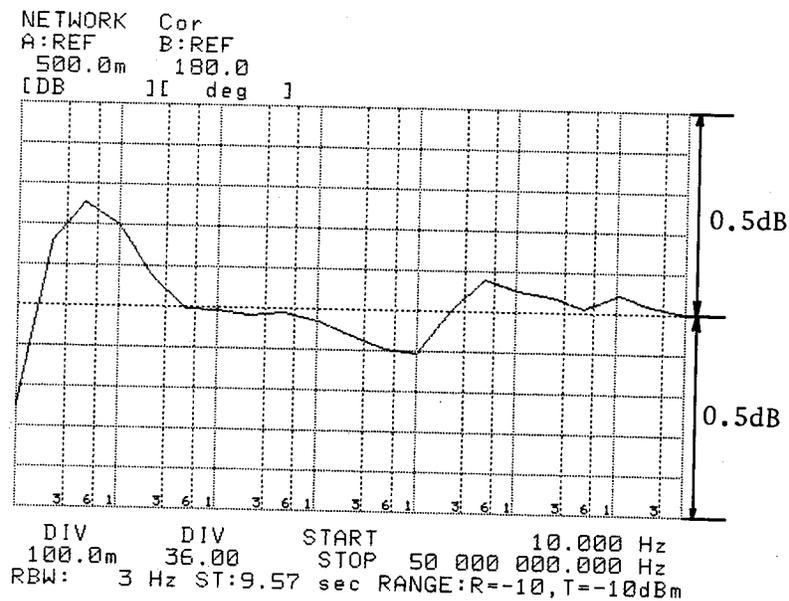

Figure 5-3. Adjustment Example
9. Adjust **R18 (LF GAIN)** and **R25 (FLATNESS)** so that the T/R data displayed by the HP 4195A is within  $\pm 0.5$  dB for the data at 50 MHz, as shown in Figure 5-3.